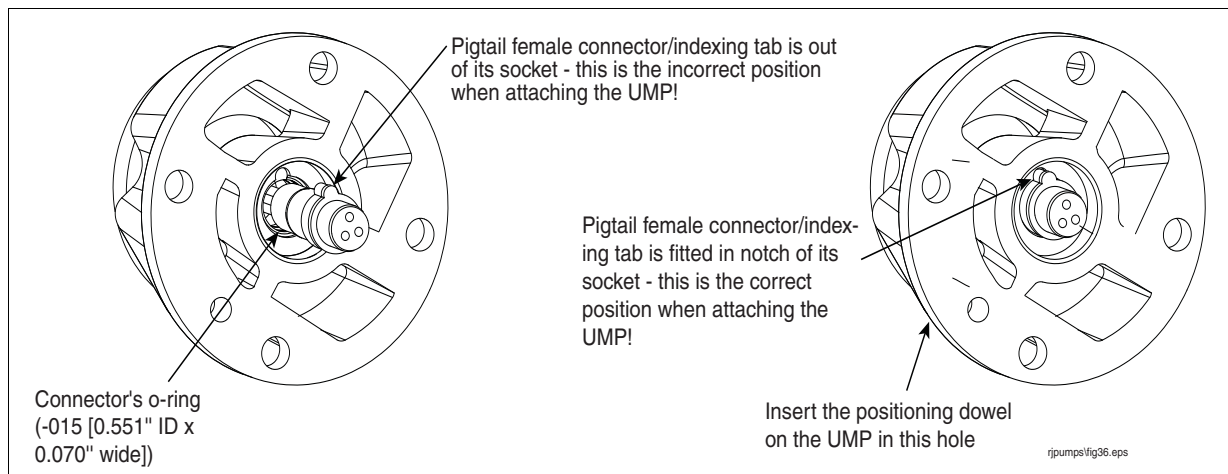

Figure 6. Verifying Pigtail's Female Connector Is Seated Properly
1. Visually inspect the pigtail connector in the end of the discharge head. Be certain the pigtail connector is seated in its socket and its index tab is in the socket's notch (see Figure 6).
3. Align the UMP positioning dowel insert in the proper hole in the discharge head (see Figure 6) and push the UMP into position using hand force only. The UMP should be snug against the discharge head prior to installing the UMP retaining bolts.